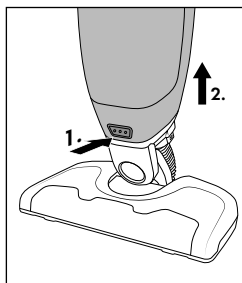

Fig. 7
- ◆ Press the release button **12** and carefully pull the floor nozzle **14** from the motor unit **8** (see fig. 7).